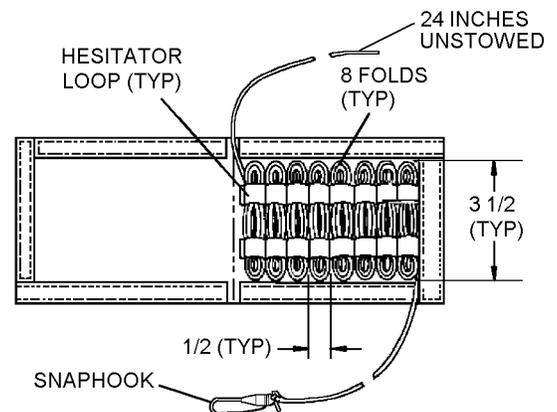

Figure 8-13. Stowed Painter Line
4. Form 1/2-inch wide hesitator loops, 1/8 inch apart. Press hook and pile tape together between loops. See figure 8-13.
5. Stow painter line, making 3 1/2-inch bights, placing 8 folds in each hesitator loop. See figure 8-13.
6. Leave 24 inches of line unstowed at each end for securing painter line to liferaft and aircraft. See figure 8-13.